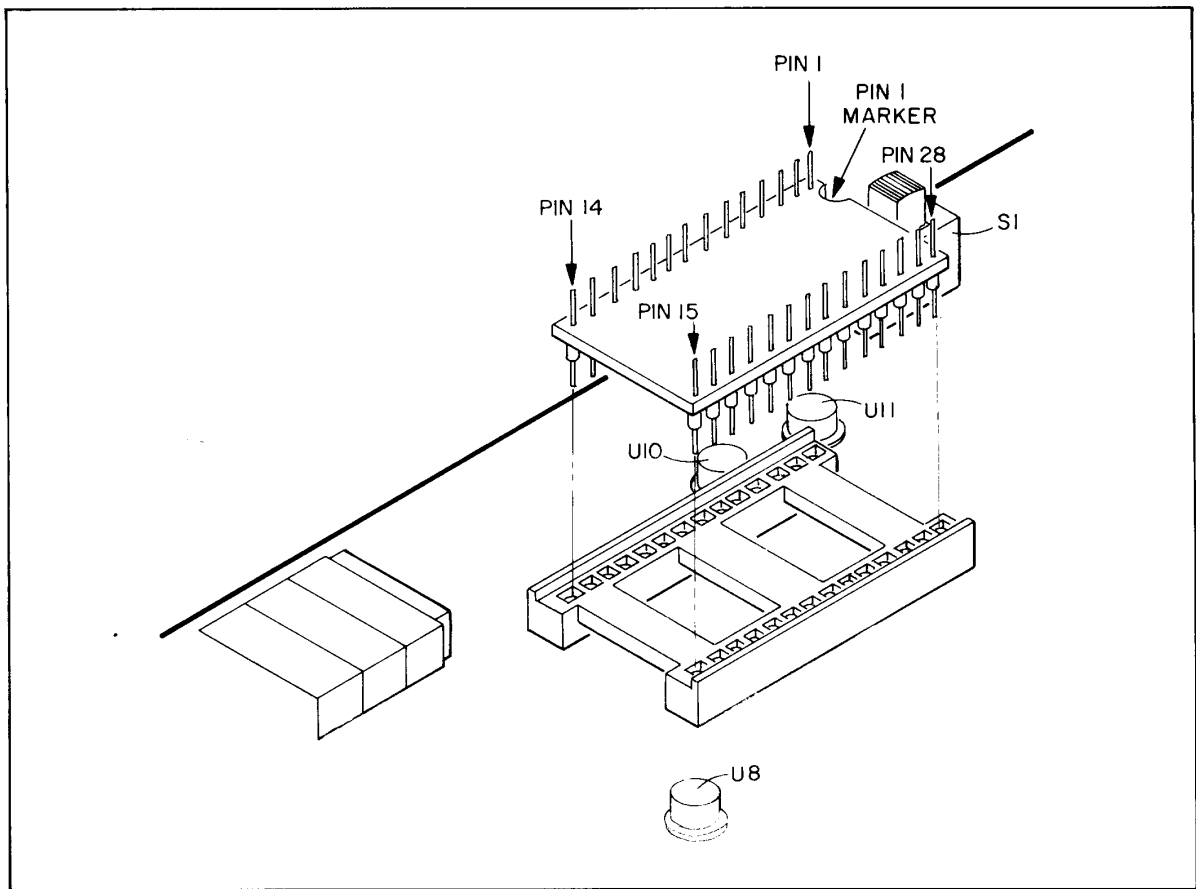

Figure 5-12. Orientation of Resistor Array Header
Use square pad or numeral "1" on printed-circuit board as orientation for pin 1 of header. (See Figure 5-12.)
- f. Install resistor-array header in socket A15XA1 of A15 board, carefully noting orientation of pin 1 (see Figure 5-12).